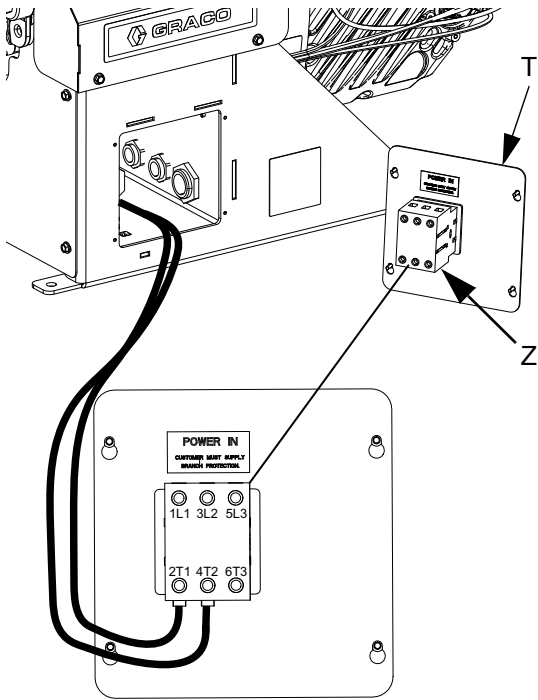

FIG. 7: Terminal Connections
NOTE: Inside the EVR Frame (S), power wires are pre-installed to terminals 2T1 and 4T2 on the Disconnect Block (Z). Refer to FIG. 7 for the terminal locations.
5. Refer to FIG. 7 and connect the wires from the power cord into terminals 1L1 and 3L2.